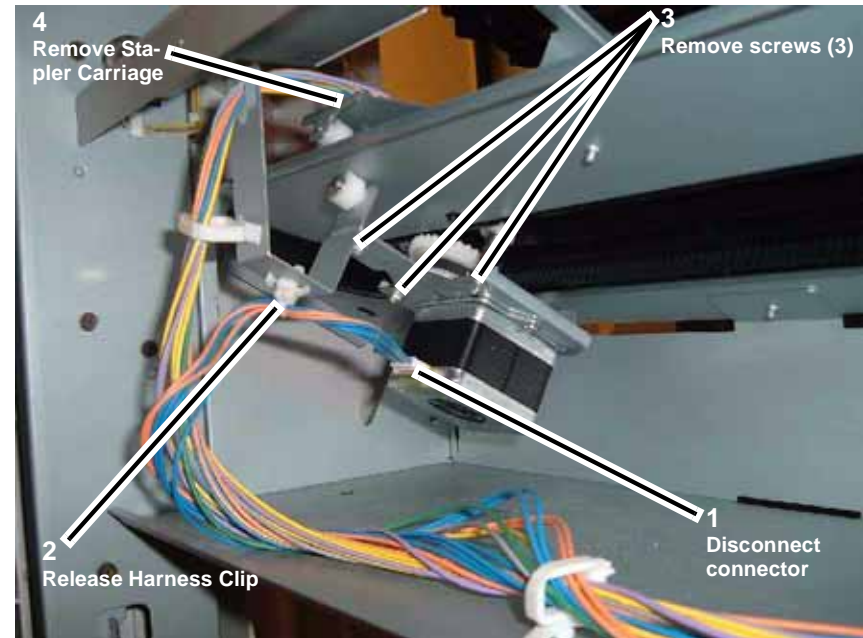

Figure 1 Removing the Stapler Carriage
3. Remove the Stapler Carriage (Figure 1).